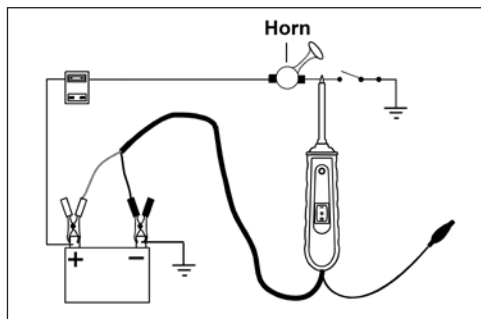

Fig.7
6.7 Activating Electrical Components with Negative Voltage (Fig.7)